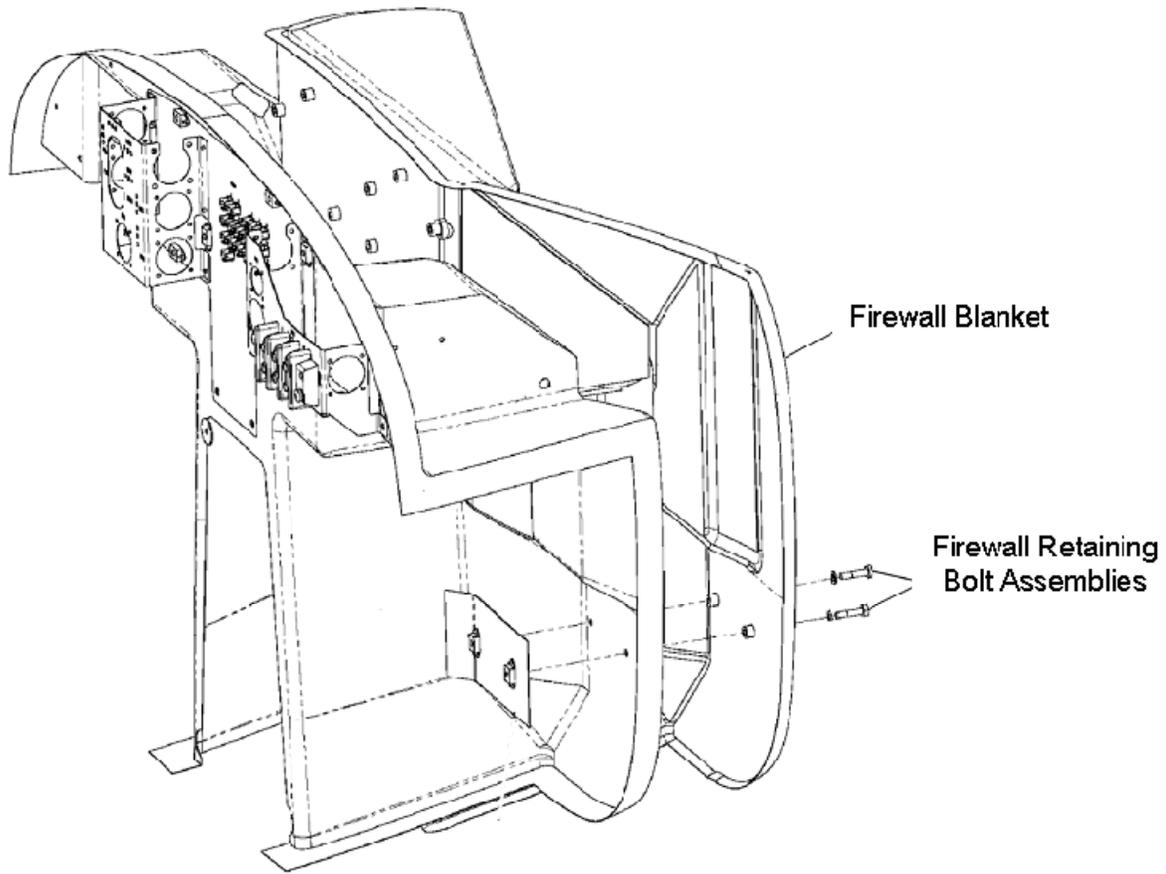

Figure 71-29 Firewall Blanket Installation
9. Remove the Tunnel firewall Assembly from the Space Frame mounting lugs (4)
12. Loosen and remove firewall-retaining bolts as shown in Figure 71-29. Note bolt and washer stack-up.